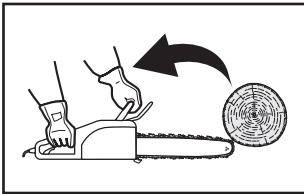

Fig. 8a
2. In some cases, contact with the tip of the guide bar (4) may cause a lightning-fast reverse reaction, kicking the guide bar up and back toward the operator (Figs. 8a-8c).